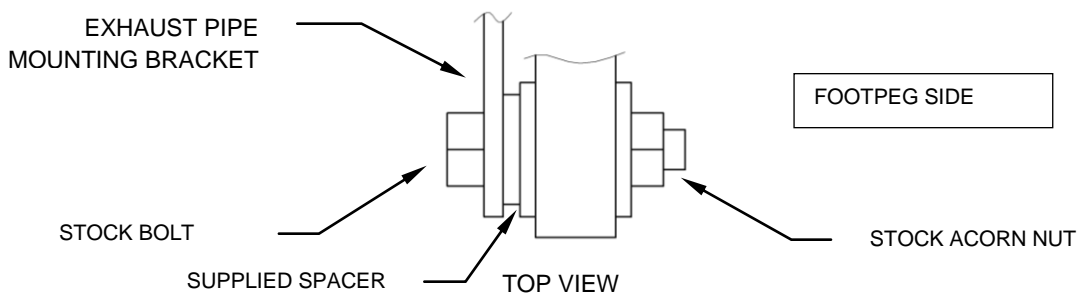

FIGURE 3
6. Slide the top muffler over the rear head pipe and align holes in the mounting bracket with the holes in the frame bracket. NOTE: Be sure the mounting bracket is mounted behind the frame bracket. Using stock hardware, secure the mounting bracket to the frame bracket. **Note: On the Mean Streak and Marauder models place the supplied black spacer between back of passenger foot peg mount and exhaust pipe bracket, refer to fig. 3, using all the stock hardware except for the small washer, which is not used.**